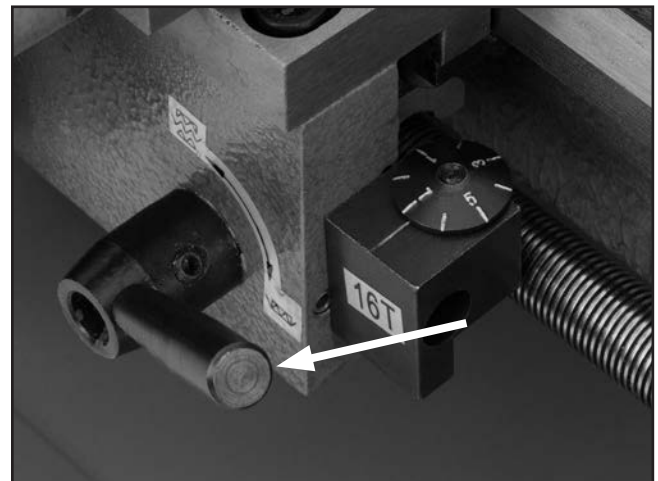

Figure 24. Feed lever.
5. Move the feed lever down to engage the half-nut, which in turn, makes the automatic carriage feed active (see **Figure 24**).